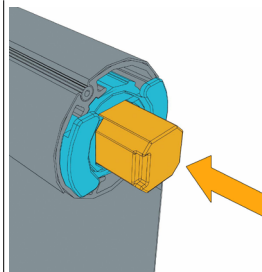
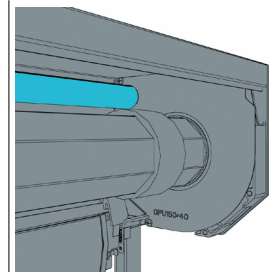

Fig. 22. Spring-assisted part of the bearing
Fig. 23. Installing the right part of the tube with insect screen
- install the right part of the tube pressing on the projecting spring-assisted part of the **M-OP** bearing (fig. 22) till it enters the tube, and drag it into the hole in the **M-BR-R** bracket or into the **GPU** safety plate till latching (fig. 23);